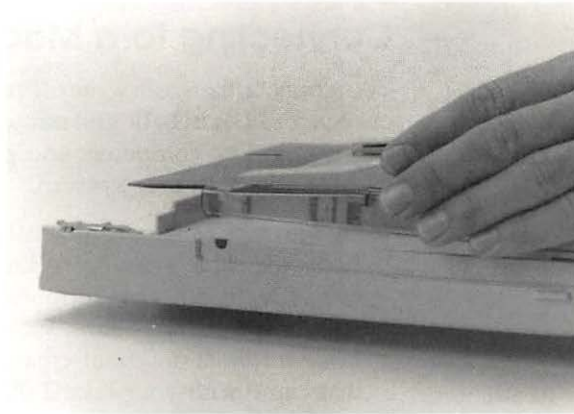

Figure 1-18
2. Position the manual feed guide in the slots on the paper cassette. (See Figure 1-18.)